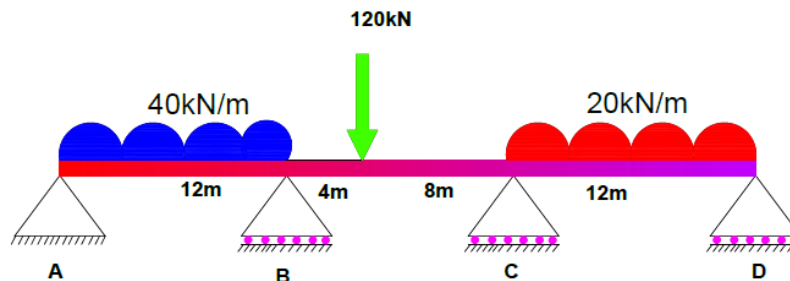

Fig 5
13. (a) Analyze the continuous beam shown in fig 5 using matrix CO4-Ana (16) flexibility method. Assume EI value.